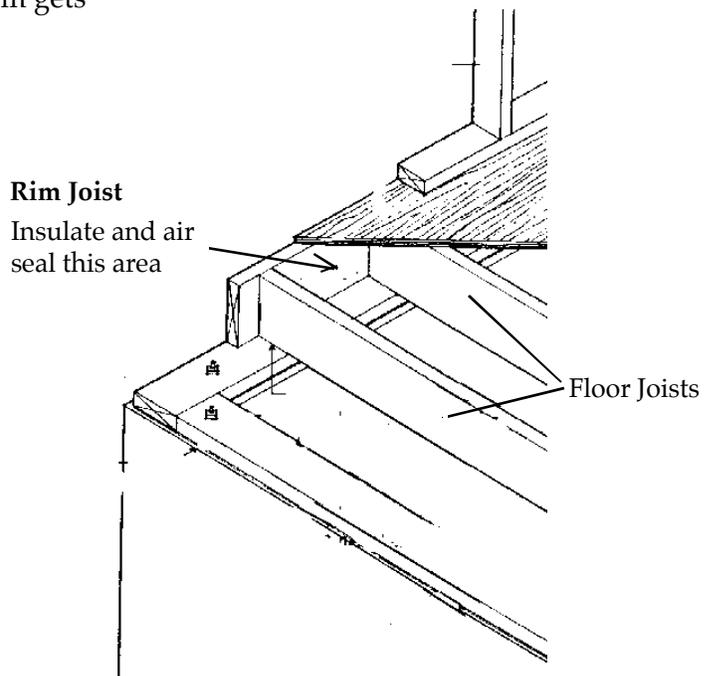

Figure 6:
- **Rim joist area (Figure 6)**